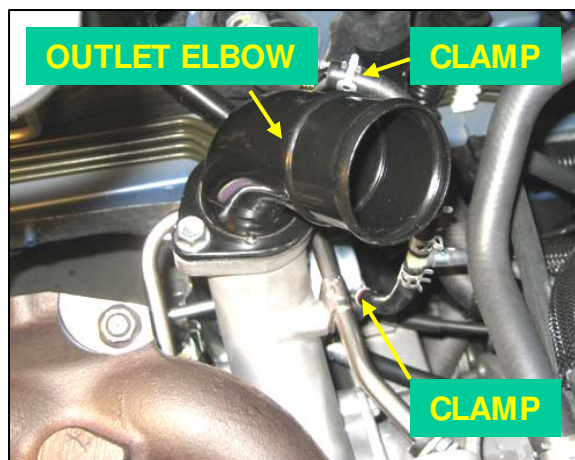

Fig. 10
11. Remove the vacuum / emission hose from the black metal compressor outlet elbow and from the wastegate actuator. Tag this hose for easy identification upon reassembly, and secure the hose out of the way in the engine compartment. These parts will be reused (2 hose clamps, pliers). See *Fig. 10*.